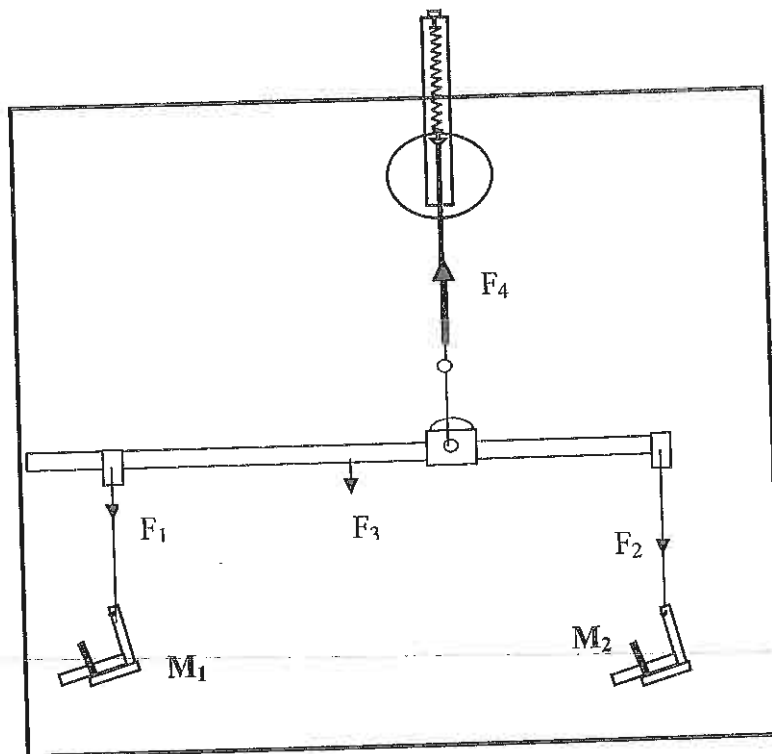

Figure 8.5: Equipment Setup
2. Using the technique described in part a, find the center of mass of the balance beam, and mark it with a pencil. Then set up the equipment as shown in Fig.8.5. (The retainer can be pulled from the pivot Mount and hung from the metal rings, as shown.) By supporting the balance beam from the spring balance, you can now determine all the forces acting on the beam. As shown in the illustration, these forces include: